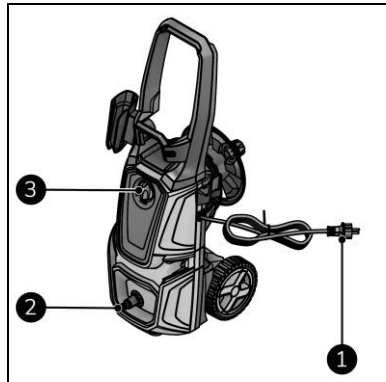

Figure 11
2. Make sure the ON(I)/OFF(O) switch (Figure 11, pos. 3) is in the OFF(O) position.
3. Place the power plug (Figure 11, pos. 1) into a socket that is easily accessible.
4. Connect the water supply to the device (Figure 11, pos. 2).